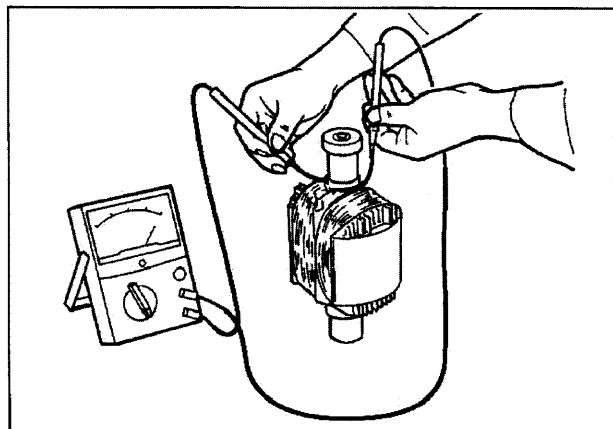

Fig. 6-2
(1) CHECKING FIELD COIL
- Measure the resistance of field coil with a circuit tester. (See Fig. 6-2.)